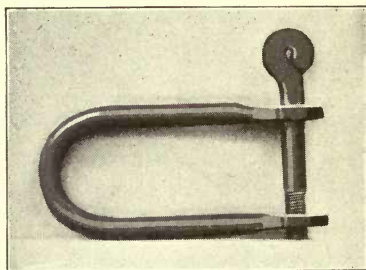

FIG. 28.
6. Heat, and clamp in the vise, and bend the flattened end over to one side, as in Fig. 16. Then bend over the horn of the anvil until the curve for the head is almost completed. Finish by hammering down directly on the stock until the end comes around and touches. The eye of the gate hook, Plate 3, is forged in much the same way. Fig. 28 shows the completed clevis.